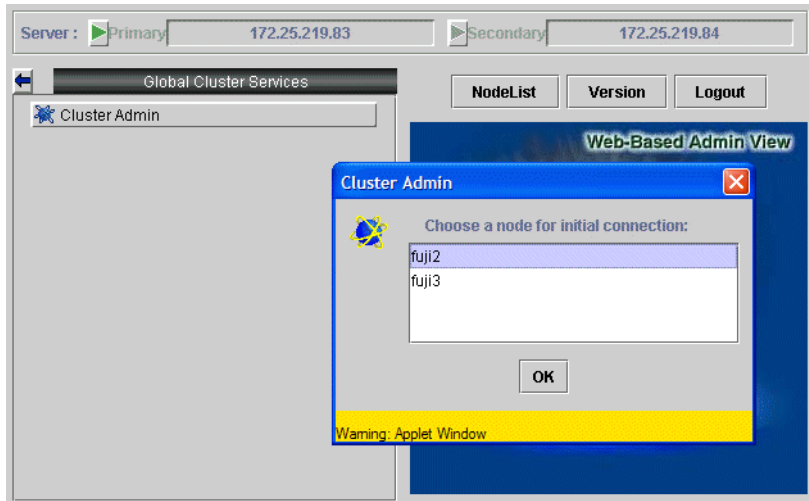

Figure 51: Cluster menu
3. The *Choose a node for initial connection* screen appears (see Figure 51). Select a node, and click on *OK*. The main Cluster Admin screen appears.